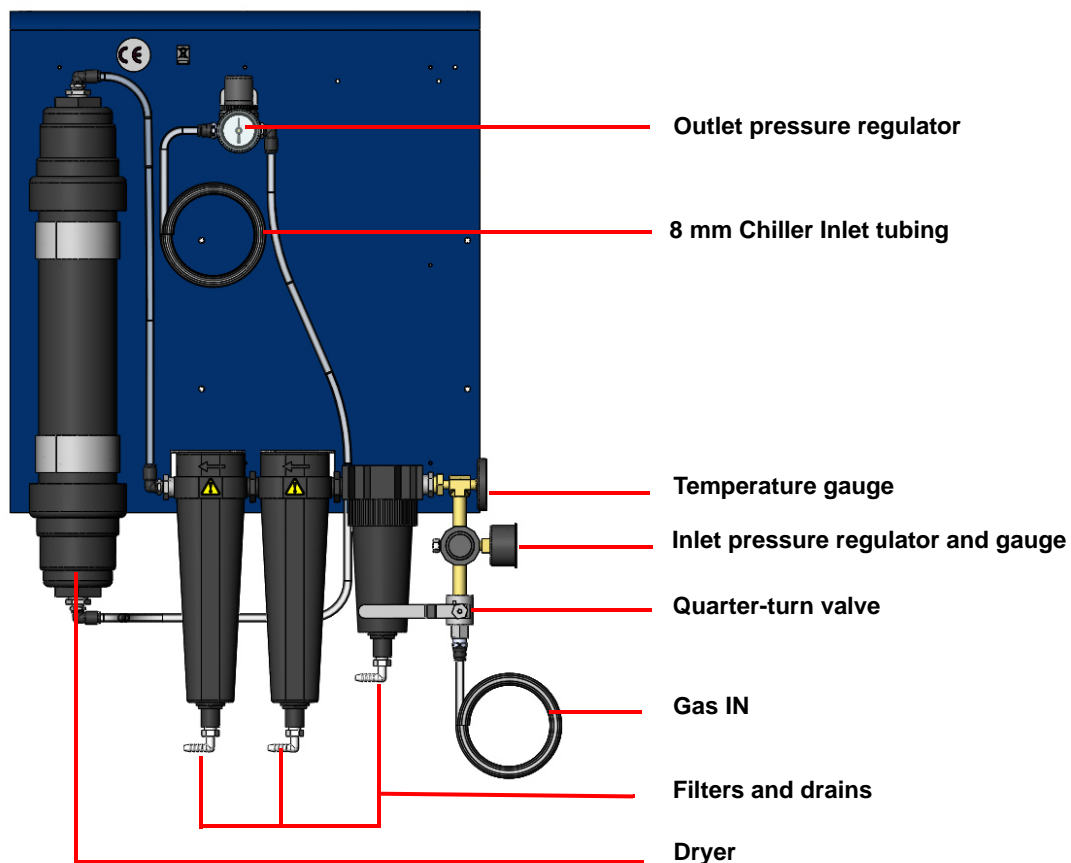
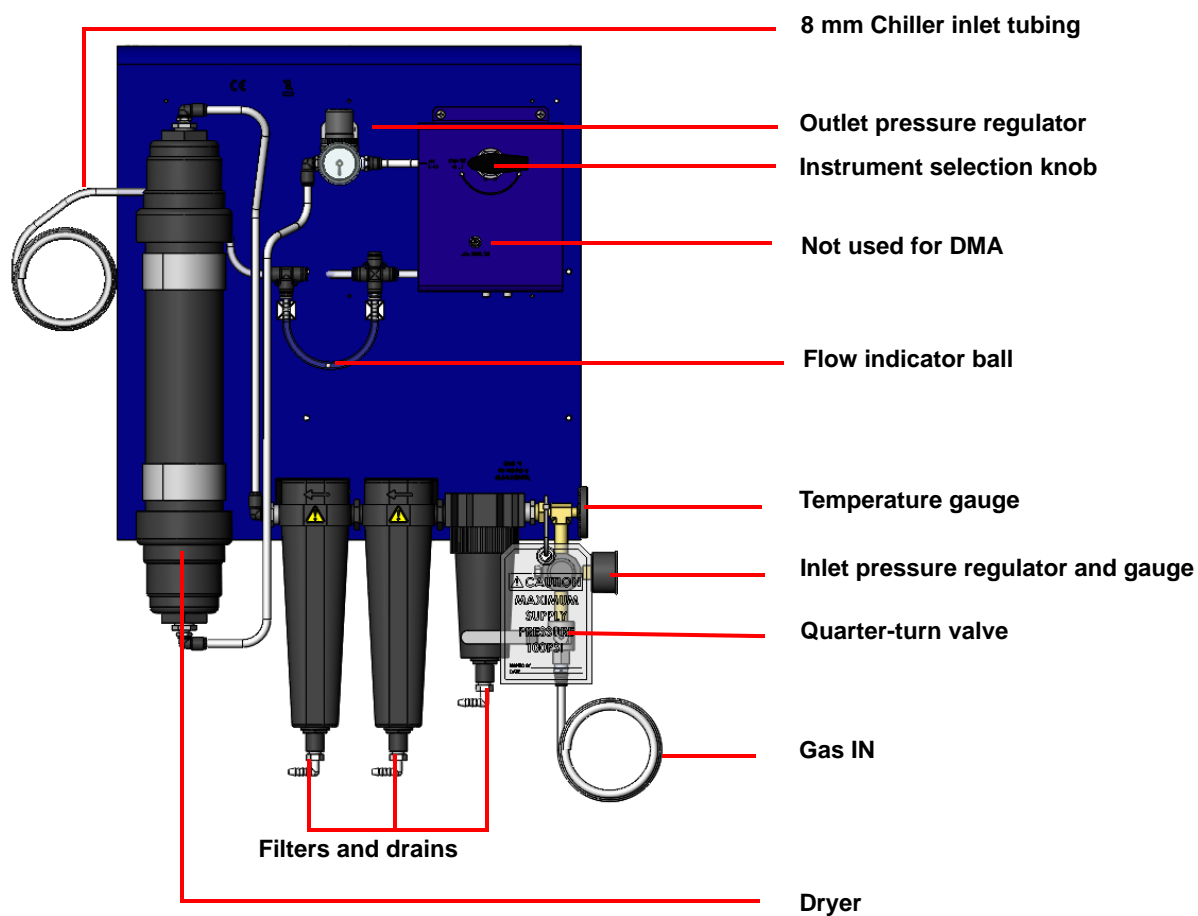

Figure 14 Stand-alone DMA Air Chiller Panel.
Figure 15 Combined DHR/DMA Chiller Panel.
- 2 Place the Air Chiller with attached Chiller Panel next to the DMA 850. Refer to Figure 14 for the Stand-alone DMA Air Chiller Panel and Figure 15 for the Combined DHR/DMA Air Chiller Panel.